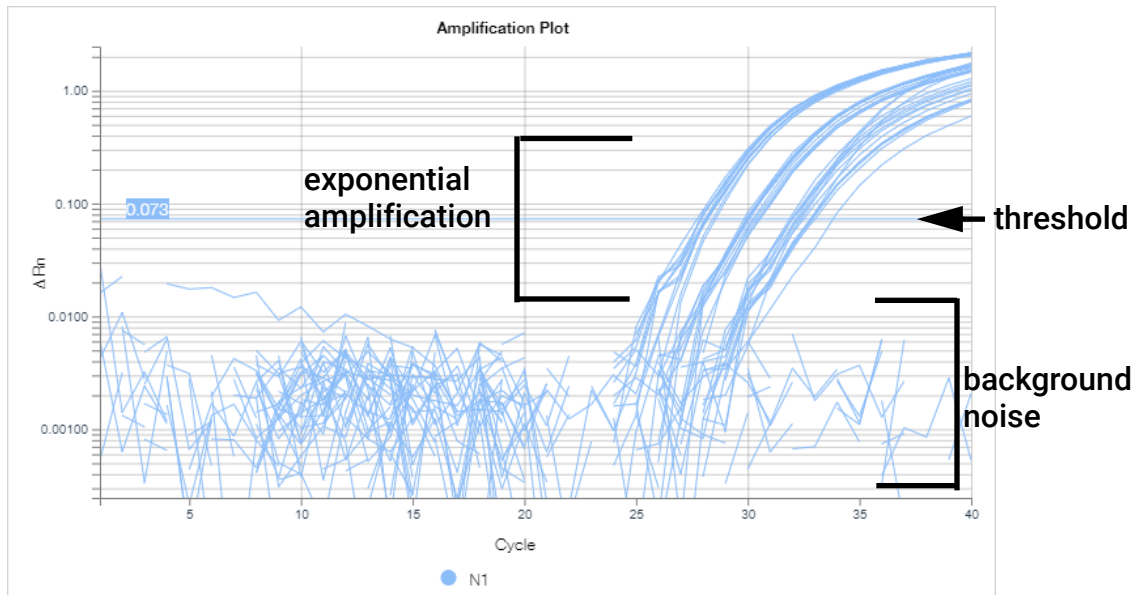

Figure 30 Design & Analysis Amplification Plots for N1 target
- c Determine if the threshold is both high enough to be above the background noise and low enough to include plots in the exponential amplification phase (refer to **Figure 30**). Based on this determination, proceed as directed in **Table 14**.